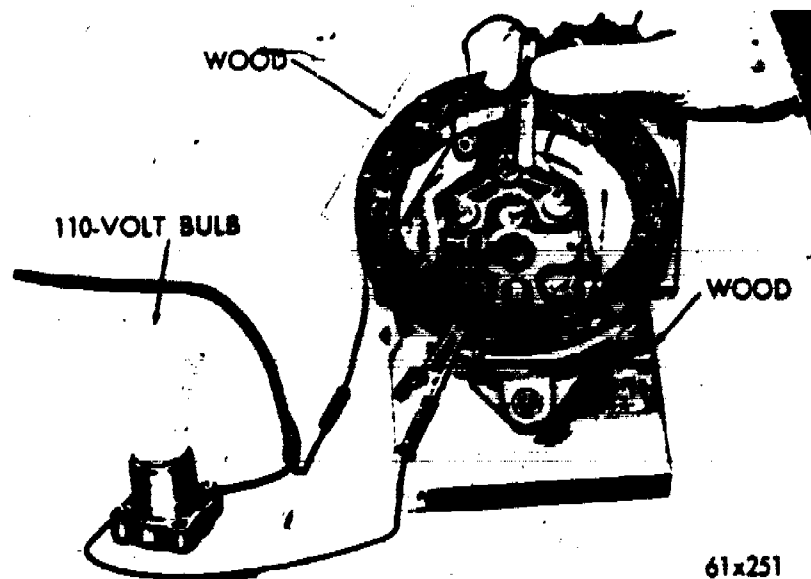

Figure 27. Testing Stator For Grounds (Typical).
3. Test the stator for grounds. 3. Refer to figure 27.